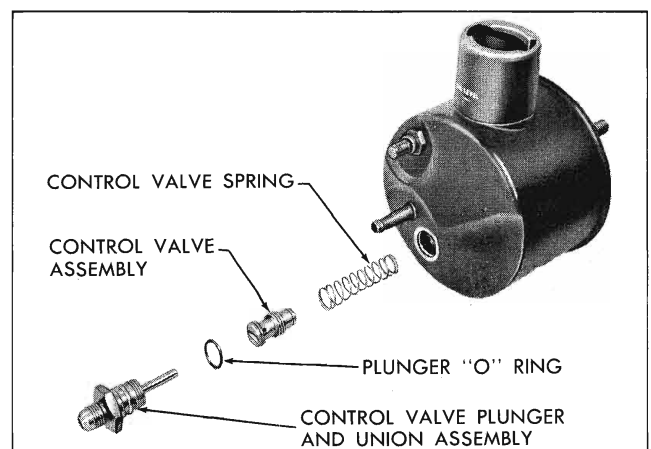

Fig. 9A-54 Flow Control Valve and Related Parts
19. Install flow control valve assembly making sure hex head (with screen) end goes into bore first (Fig. 9A-54).